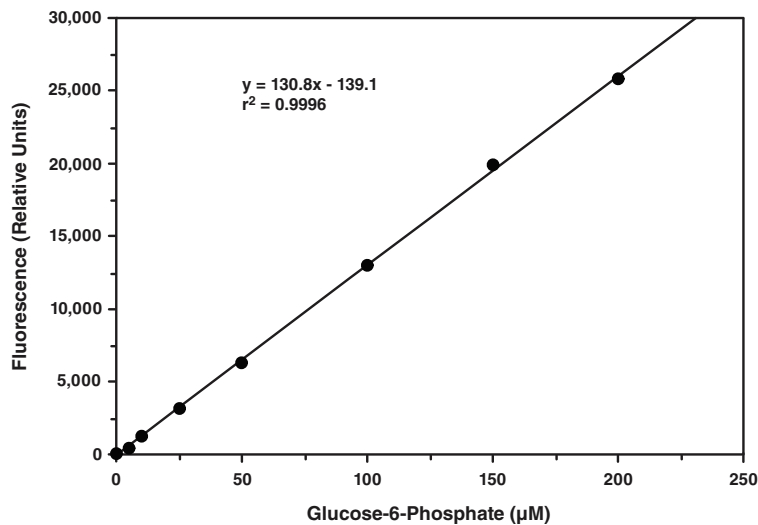

Figure 2. G6P standard curve
2. Subtract the fluorescence value of standard A from itself and all other standards. This is the corrected fluorescence (CF).
3. Plot the corrected fluorescence values (from step 2 above) of each standard as a function of the final concentration of G6P from Table 1. See Figure 2, on page 14, for a typical standard curve.